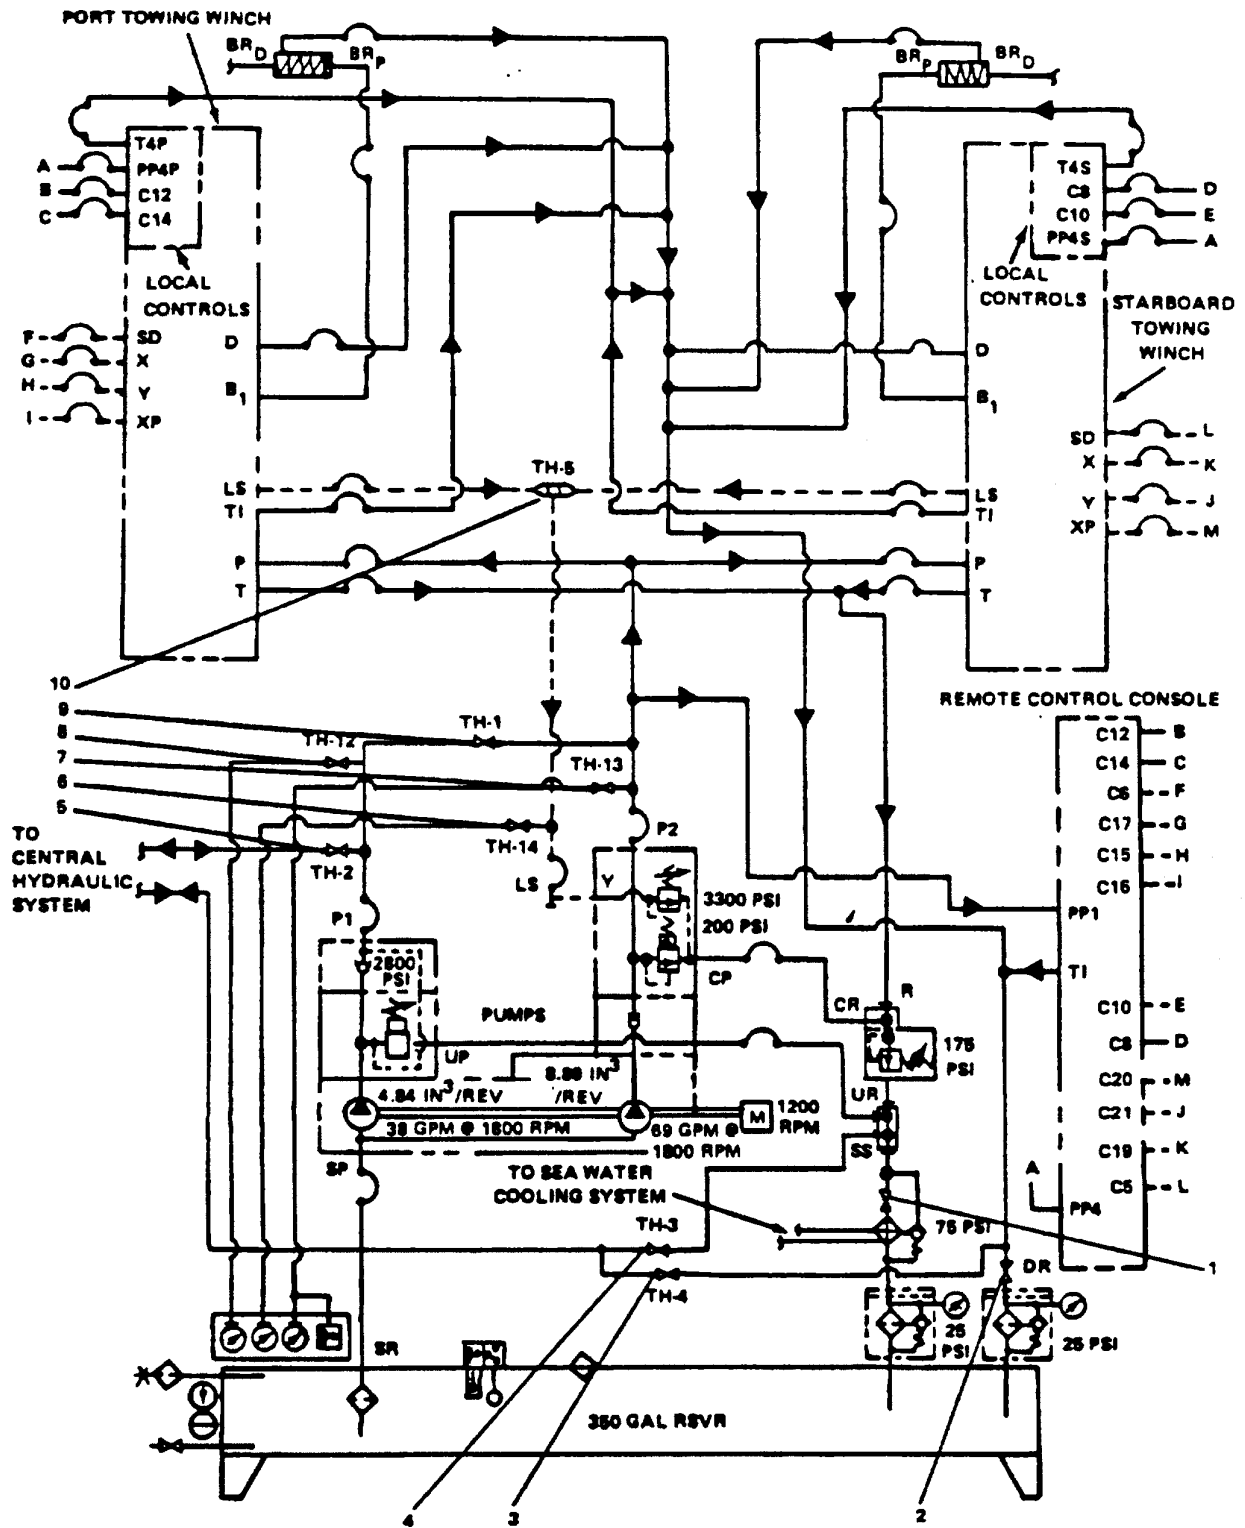

Figure 1-82. Tow Winch Hydraulic System (Sheet 1 of 2).
(2) Hydraulic drive (Figure 1-82). The dual pump, open-loop hydraulic power unit is driven by a diesel engine located in AMS 1 (starboard side). It is remotely operated from the machine with dual controls. The hydraulic reservoir has a nominal capacity of 300 gallons. The maximum flow, at 1,800 RPM, is 98 GPM (proportional to diesel engine speed). The flow is controlled by a proportional directional control valve mounted on the towing machine drive motor. The pilot signal to the directional control valve is from the remote control lever located on the operator's console.